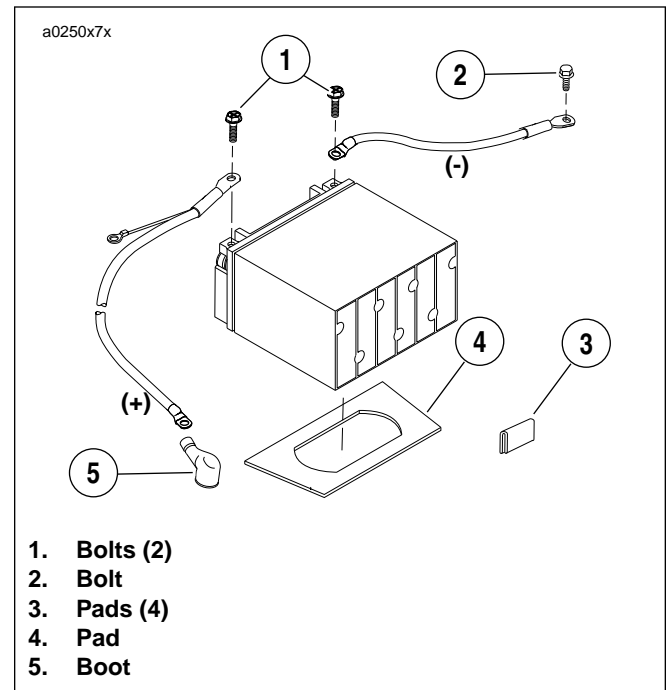

Figure 7-61. Battery Installation
2. See Figure 7-61. Insert bolt through battery positive cable (red) into threaded hole of battery positive (+) terminal. Tighten bolt to 72-96 in-lbs (8-11 Nm).